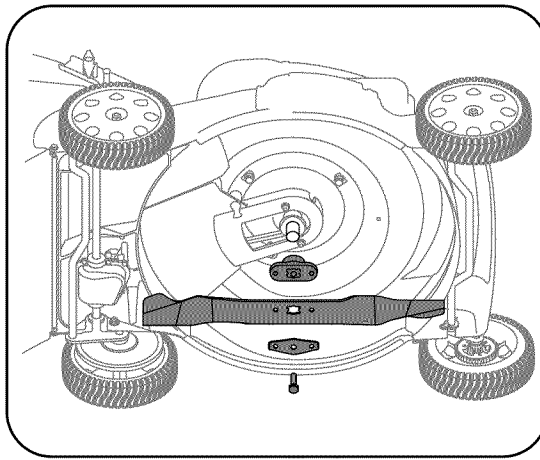

Figure 12
2. Remove bolt, blade bell support, blade, and blade adapter from the engine crankshaft. See Figure 12.